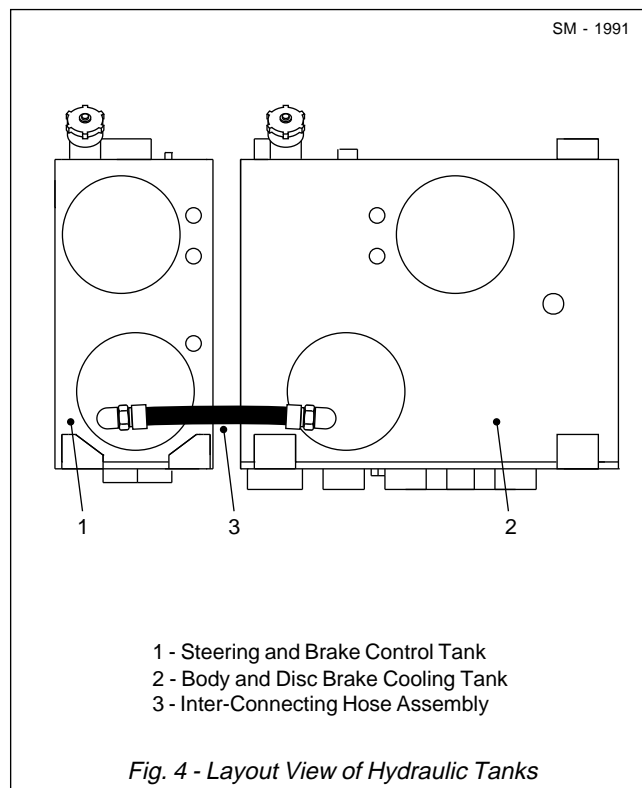

Fig. 4 - Layout View of Hydraulic Tanks
3. With suitable containers in position, remove drain plugs from tank (1) and body and disc brake cooling tank (2, Fig. 4) and drain the oil. Refer to Section 230-0040, BODY AND DISC BRAKE COOLING TANK. Reinstall drain plugs in tanks and tighten securely.
4. Remove bolts (6), lockwashers (7), access cover (3) and gasket (5) from tank (1). Discard gasket (5).
5. Remove wing nuts (14) from rods (13). Remove and discard filter assembly (10) and gasket (15) from tank (1).
6. Install new gasket (15) and filter assembly (10) over rods (13) in tank (1) and secure with wing nuts (14).
7. Install new gasket (5) and access cover (3) on tank (1) and secure with bolts (6) and lockwashers (7).
8. Fill tank (1) to correct level with hydraulic oil specified in Section 300-0020, LUBRICATION SYSTEM. Install filler cap (8).
4. If required, remove inter-connecting hose (3, Fig. 4) from access cover (4). Fit blanking caps and plugs to hydraulic line and tank port. Remove bolts (6), lockwashers (7), access cover (4) and gasket (5) from tank (1). Discard gasket (5).
5. Reach inside tank (1) and unscrew suction screen (11) by turning hex head at the neck of suction screen (11). Remove suction screen (11) from tank (1).
6. Clean suction screen (11) and tank (1) with paraffin and dry with compressed air. Inspect suction screen (11) for damage and renew if necessary.
7. Install suction screen (11) in tank (1) and secure by turning on hex head at the neck of suction screen (11).
8. Install new gasket (5) and access cover (4) on tank (1) and secure with bolts (6) and lockwashers (7). Remove blanking cap and plug and install inter-connecting hose (3, Fig. 4).
9. Fill tank (1) to correct level with hydraulic oil specified in Section 300-0020, LUBRICATION SYSTEM. Install filler cap (8).